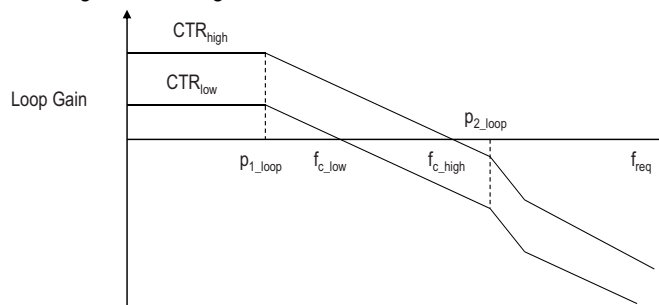

Figure 6 Example of loop gain and loop bandwidth variation vs CTR variation
As indicated in equation (4) and figure 6 CTR directly affect DC loop gain and cut-off frequency. The worst case phase margin occurs at high CTR where 2nd loop pole,  $p_{2\_loop}$ , is getting close to the cut-off frequency,  $f_{c\_high}$ . When CTR is low both DC gain and loop bandwidth reduce, deteriorating the static and dynamic loop regulation. It is important for CTR variation to be small and well bounded so that power converters are well behaved at worst case conditions.